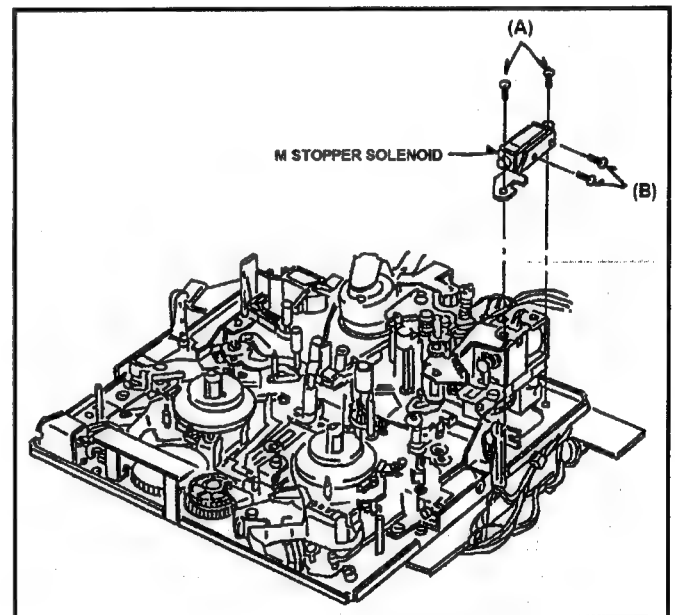

Fig. 6-20-1 Removal of M-Stopper Solenoid
5. Unscrew the 4 screws (A) and (B) and remove the M-Stopper Solenoid as shown in Figure 6-20-1.